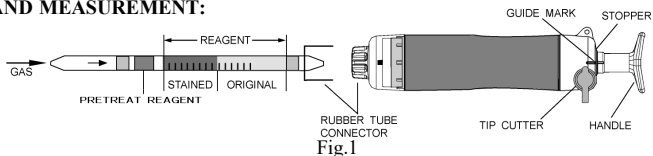

Fig.1
- ② Insert the detector tube into the aspirating pump securely as shown in Fig.1. (Arrow mark shall point to the pump.)
- ③ Align the guide marks on the shaft and stopper of the aspirating pump.
- ④ Pull the pump handle at full stroke locked position and wait for 1 minutes or until the completion of sampling is confirmed with the flow control indicator of the pump (See descriptions about the flow indicator in the instruction manual of the pump).
- ⑤ On completion of sampling, read the scale at the maximum point of the stained layer.